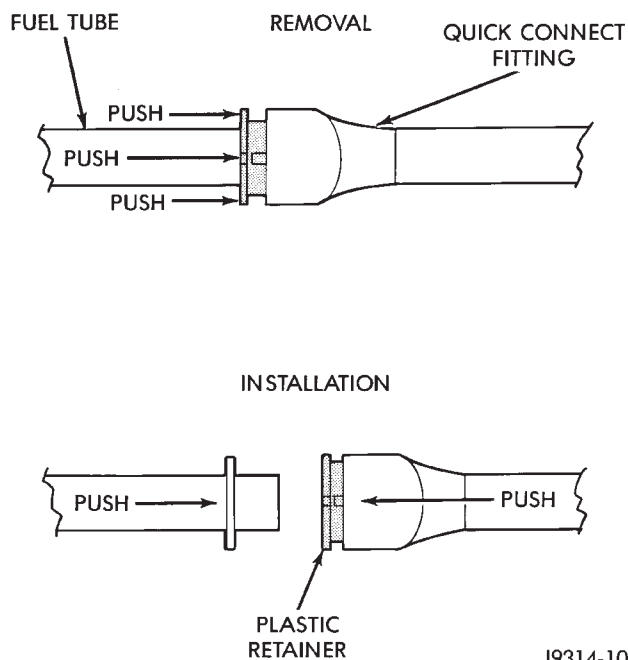

Fig. 19 Plastic Retainer Ring Type Fitting
This type of fitting can be identified by the use of a full-round plastic retainer ring (Fig. 19) usually black in color.
(3) Clean the fitting of any foreign material before disassembly.
(4) To release the fuel system component from the quick-connect fitting, firmly push the fitting towards the component being serviced while firmly pushing the plastic retainer ring into the fitting (Fig. 19). With the plastic ring depressed, pull the fitting from the component. **The plastic retainer ring must be pressed squarely into the fitting body. If this retainer is cocked during removal, it may be difficult to disconnect fitting. Use an open-end wrench on the shoulder of the plastic retainer ring to aid in disconnection.**